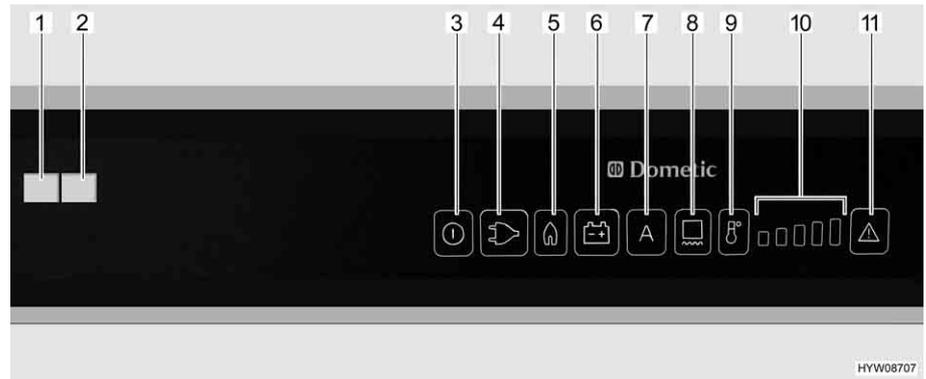

Fig. 195 Operating controls for the refrigerator (Dometic RMD)
If the "AES" operating mode is set, the 230 V supply is **not** connected and the vehicle engine is **switched off**, the AES selects the gas supply. When selecting gas operation the ignition fuse is opened automatically so gas can get into the burner. At the same time the electronic ignition is activated. If the gas flame is extinguished, e.g. by blast of wind, the ignition is activated immediately and re-ignites the gas. If there is a fault in gas operation, the illuminated buttons "Gas" (Fig. 195,5) and "Fault" (Fig. 195,11) flash. The "Fault" indicator lamp (Fig. 195,1) lights up and an alarm sounds for 20 seconds.
When turned on the first time the refrigerator automatically selects the middle thermostat position. This position can be adjusted manually using the temperature range selection button (Fig. 195,9). The indicator lamps (Fig. 195,10) show the selected thermostat position. The refrigerating temperature for all three types of energy is set with the temperature range selection button. It takes a few hours till the refrigerator reaches its normal operating temperature. When changing over the operating mode the thermostat setting will be maintained. The refrigerating temperature is retained regardless of the type of energy being used.
- Switch on the frame heater for a 2 hour period: Push button (Fig. 195,8) once. One bar is lit up on the temperature range display (Fig. 195,10).
- Switch on the frame heater for a 5 hour period: Push button (Fig. 195,8) twice. Two bars are lit up on the temperature range display (Fig. 195,10).
- Setting frame heater for continuous operation: Push button (Fig. 195,8) three times. Three bars are lit up on the temperature range display (Fig. 195,10).
The temperature range display (Fig. 195,10) shows the operating time of the frame heater for several seconds.
High external temperatures and high humidity can cause drops of water to form on the metal frame of the freezer compartment. This is why the refrigerator is equipped with a frame heater for the freezer compartment. If the temperature and humidity are high, switch on the frame heater by pressing the button (Fig. 195,8). This prevents corrosion. If the frame heater is switched on, the illuminated button (Fig. 195,8) is lit.
- Press and hold the On/Off button (Fig. 195,3) for about 2 seconds. The refrigerator switches on and the previously set type of energy or "AES" is displayed.
- Use the temperature range selection button (Fig. 195,9) to set the refrigerating temperature. The indicator lamps (Fig. 195,10) show the selected thermostat position.
- Press and hold the On/Off button (Fig. 195,3) for about 2 seconds. The refrigerator switches off and no displays are lit.